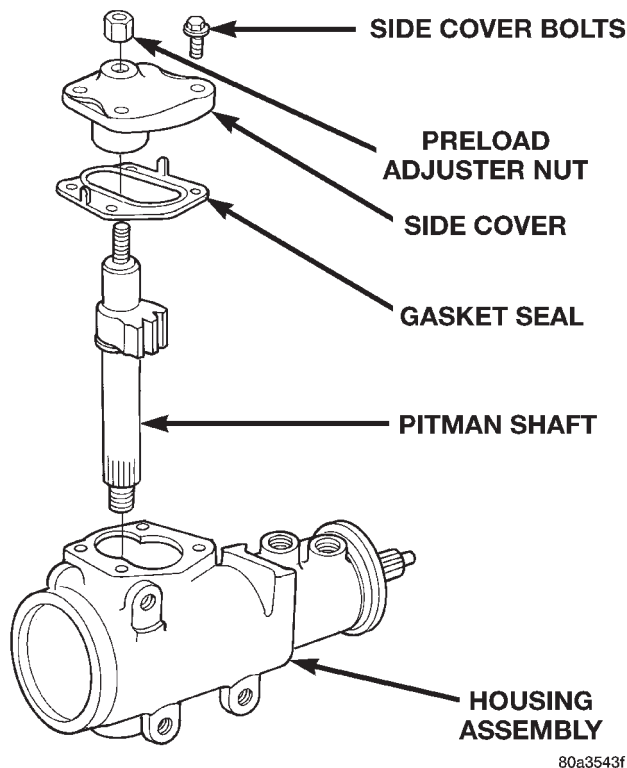

Fig. 8 Side Cover and Pitman Shaft
- (2) Remove preload adjuster nut (Fig. 8).
- (3) Rotate the stub shaft with a 12 point socket from stop to stop and count the number of turns.
- (4) Center the stub shaft by rotating it from the stop 1/2 of the total amount of turns.
- (5) Remove side cover bolts and remove side cover, gasket and pitman shaft as an assembly (Fig. 8).
- (5) Install the retainer ring with snap ring pliers.
- (6) Install dust seal with a driver and handle.
- (7) Install pitman shaft to side cover by screwing shaft in until it fully seats to side cover.
- (8) Install preload adjuster nut. **Do not tighten nut until after Over-Center Rotation Torque adjustment has been made.**
- (9) Install gasket to side cover and bend tabs around edges of side cover (Fig. 8).
- (10) Install pitman shaft assembly and side cover to housing.
- (11) Install side cover bolts and tighten to 60 N·m (44 ft. lbs.).
- (12) Adjust Over-Center Rotation Torque.